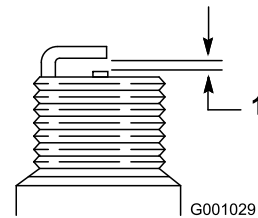

Figure 36
4. Set the gap between the electrodes on the spark plug at 0.030 inch (0.76 mm) (Figure 36).